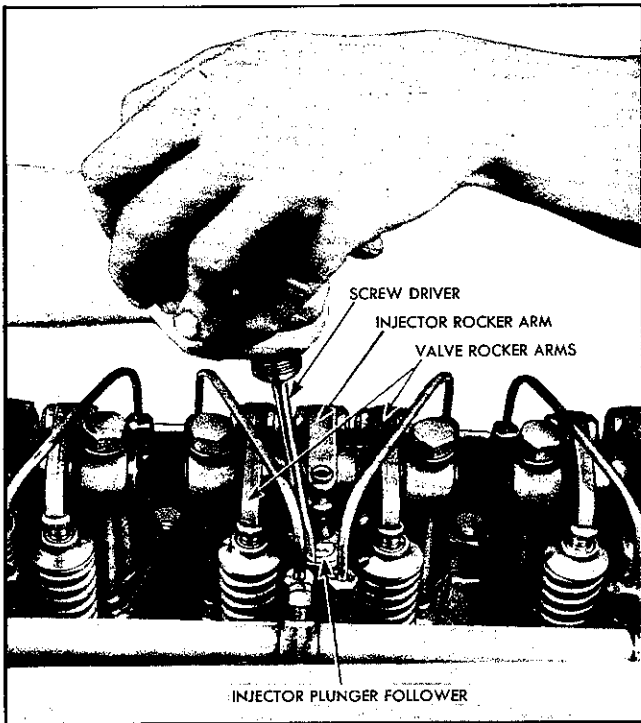

Fig. 7—Cutting Out an Injector by Depressing Injector Follower.
- (d) Operate engine at 600 to 800 RPM. Cut out each injector in turn to determine faulty cylinder. Injector is cut out by holding follower down with screwdriver as shown in Fig. 7. If a decrease in speed is noted, this is an indication that the injector in question is working. If no decrease in speed is noted, this indicates that the injector is not functioning.
- (c) Remove the injector from No. 1 cylinder and install the pressure gauge in its place, the same as the injector was installed. See "Remove Injector," Page 5, Sec. 15, and Fig. 7 for installing pressure gauge and taking compression pressure.